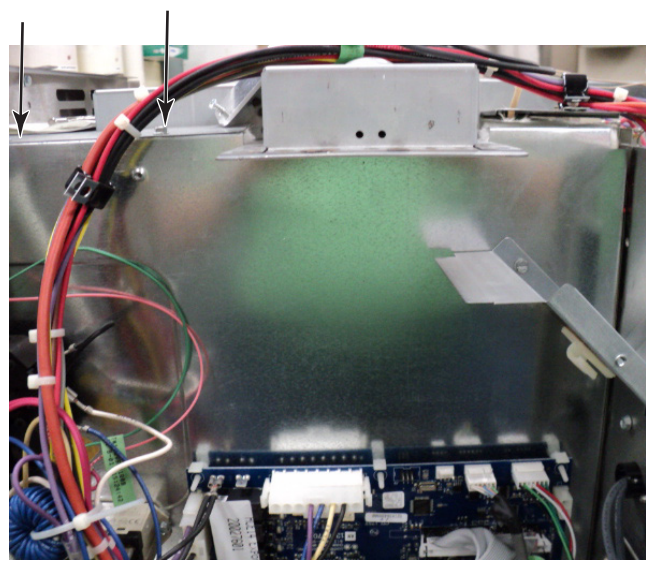

Figure 8
8. Remove two top hex head screws from insulation retainer (Figure 8).